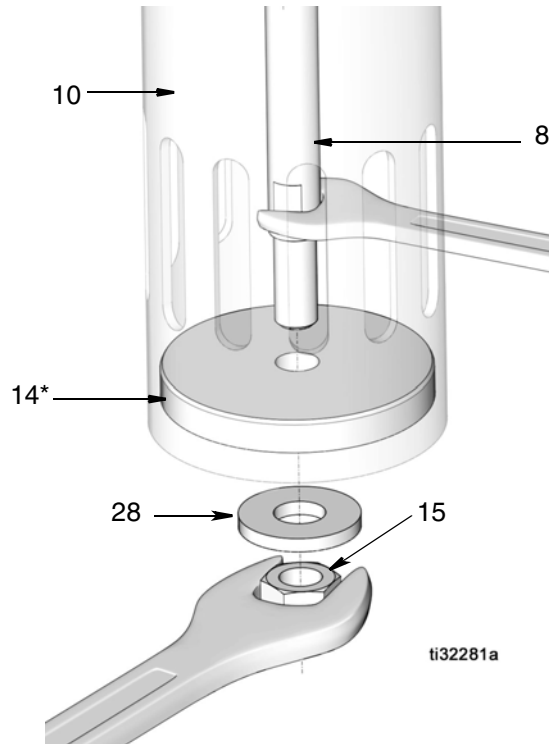

FIG. 3
4. Clamp the air motor base (21) in a vise horizontally by closing the vise jaws on the flange.
5. Insert a wrench through a slot in the foot valve (10) and secure it around the flats of the piston shovel rod (8). While holding the piston shovel rod securely in place, use a second wrench to loosen and remove jam nut (15). Remove washer (28), and priming plate (14) from shovel rod (FIG. 3).
**NOTE:** Using a wrench to hold the piston shovel rod (8) in place during this procedure will prevent it from unscrewing from the piston housing (7).